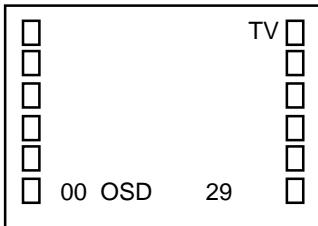

Fig. 1-1
1. In the condition of NO indication on the screen. Press the VOL. DOWN button on the set and the Channel button (9) on the remote control for more than 1 second to appear the adjustment mode on the screen as shown in **Fig. 1-1**.
4. Activate the adjustment mode display of **Fig. 1-1** and press the channel button (01) on the remote control to select "CUT OFF".
4. Activate the adjustment mode display of **Fig. 1-1** and press the channel button (12) on the remote control to select "R. BIAS".
10. If the picture is too much green. Activate the adjustment mode display of **Fig. 1-1** and press the channel button (28) on the remote control to select "CB PED".
12. If the picture is too much red. Activate the adjustment mode display of **Fig. 1-1** and press the channel button (29) on the remote control to select "CR PED".